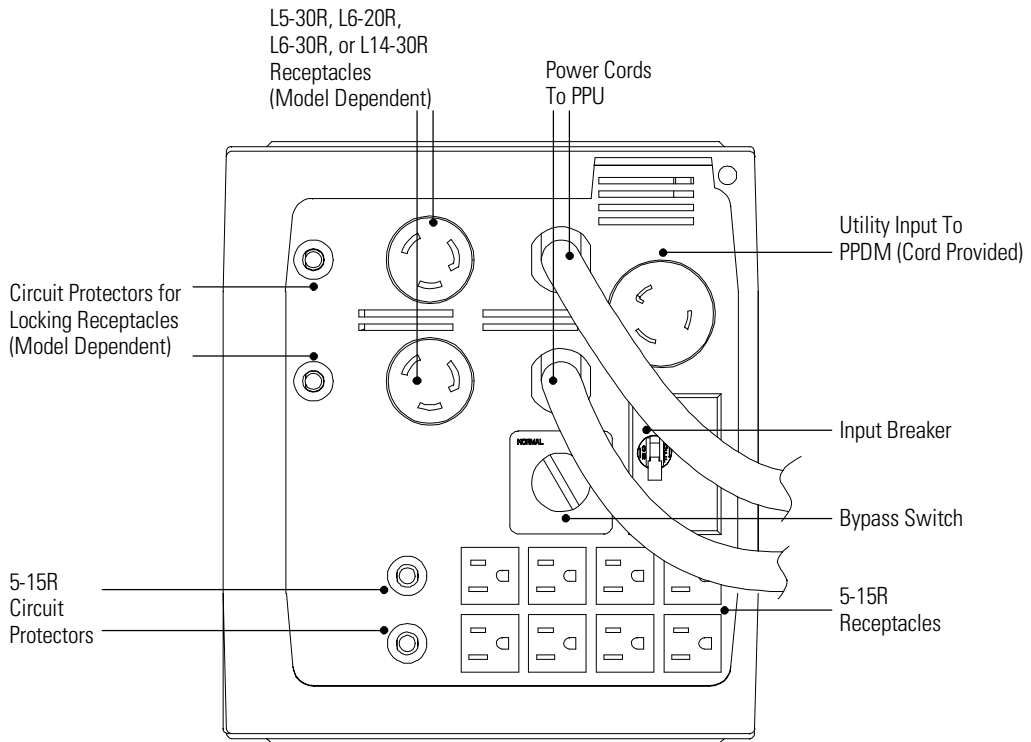
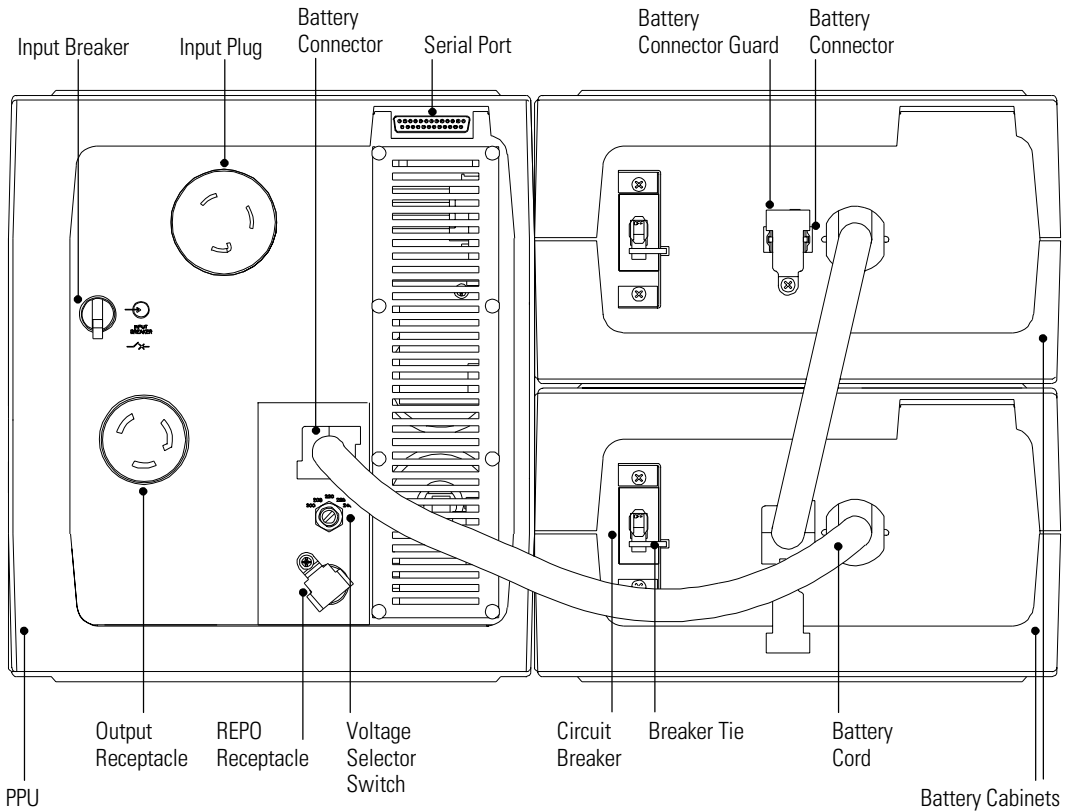

Figure 13. PPDM Plug/Receptacle Unit Rear Panel Connections
Figure 14. UPS with Plug/Receptacle PPU Rear Panel
2. Verify the Bypass switch on the PPDM rear panel is in the NORMAL position (see Figure 13).
3. Verify the circuit breaker on all battery cabinets is in the OFF (O) position (see Figure 14).
5. Plug the input and output power cords of the PPDM into the input and output power connectors on the PPU rear panel (see Figure 13 and Figure 14). Figure 24 on page 55 shows the PPDM and PPU rear panel connections.
1. Verify the PPDM input breaker is in the OFF (O) position (see Figure 13 on page 39).
4. Confirm the Bypass switch on the PPDM rear panel is in the NORMAL position (see Figure 13 on page 39).
8. Switch the circuit breaker to the ON (|) position (see Figure 14 on page 40) on each battery cabinet connected to the PPU.
10. Switch the PPU input breaker to the ON (|) position (see Figure 14 on page 40).
11. Switch the PPDM input breaker to the ON (|) position (see Figure 13 on page 39).